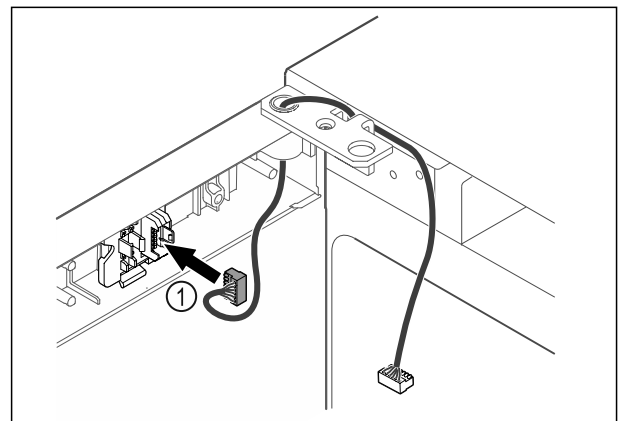

Fig. 45
- Put the plug Fig. 45 (1) in the plug holder.